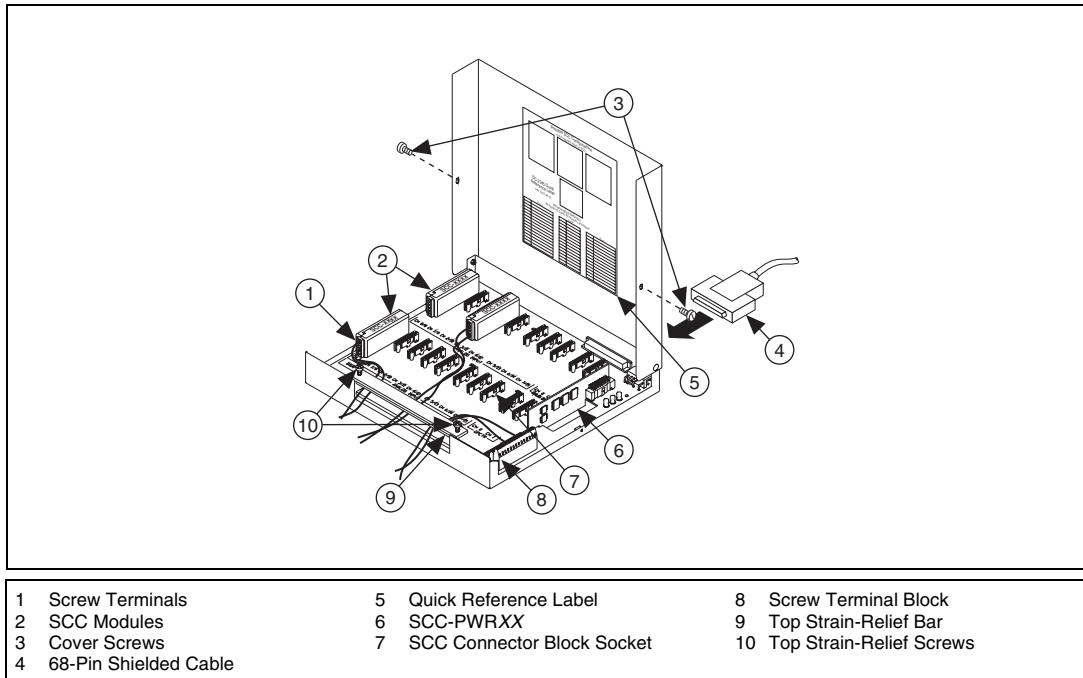
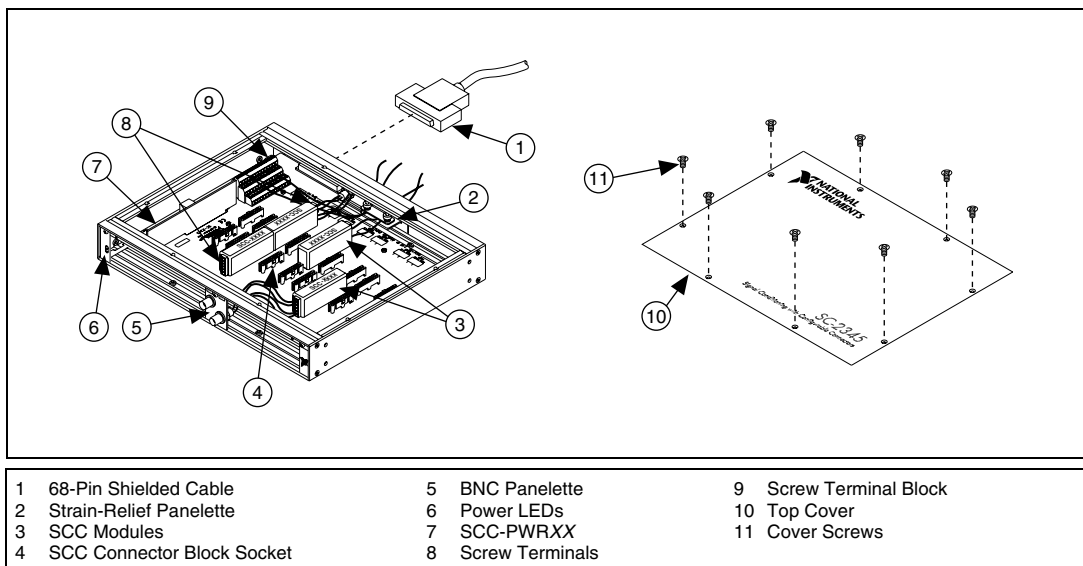

Figure 2. SC-2345 Carrier Installation Diagram
Figure 3. SC-2345 Carrier with Configurable Connectors (Rear Cabled) Installation Diagram
Figure 2 shows the SC-2345 carrier with the signal wires connected. Figures 3 and 4 show the two types of cabling found on the SC-2345 with configurable connectors.
5. Make sure the strain-relief bar is installed as shown in Figures 3, 4, and 5. If necessary, reinstall and tighten the strain-relief screws.